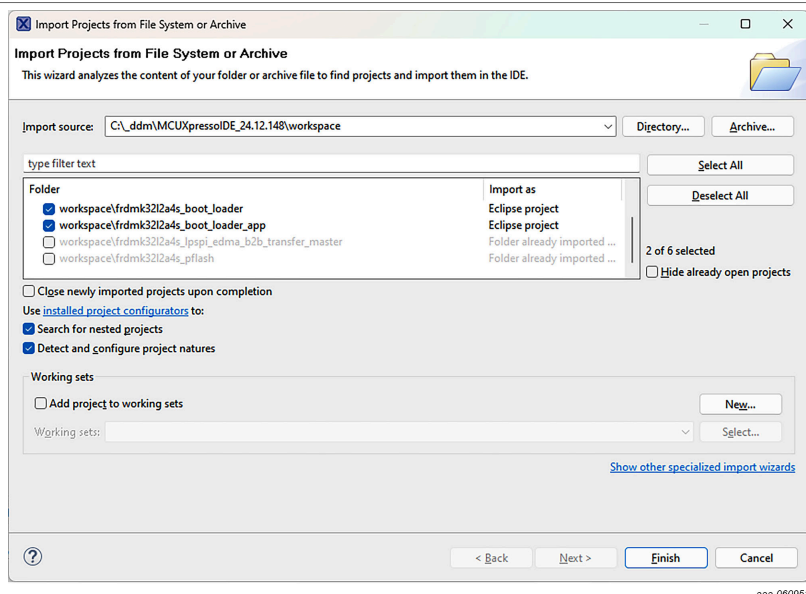

Figure 17. Open projects from file system
1. Open boot_loader and boot_loader_app projects from file system, as shown in Figure 17.